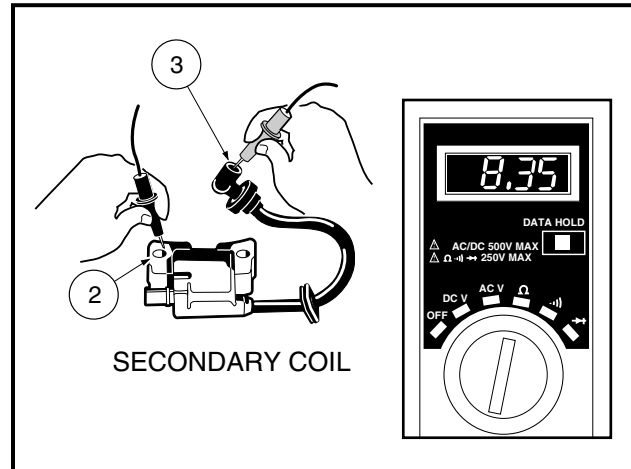

FIGURE 12-31
- Using a multimeter set on ohms ( $\Omega$ ), measure the secondary coil resistance. Place the red (+) probe of the meter on the plug lead (3) and place the black (-) probe on the primary wire terminal connector (2) (**Figure 12-31**).